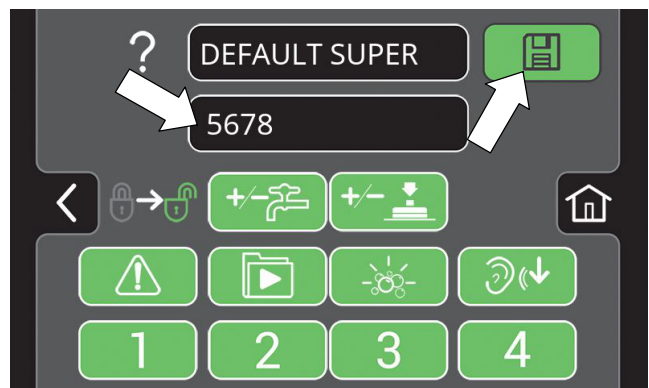

FIG. 201
5. Press the factory-assigned login code and enter a new login code (Figure 201). Press the flashing save button to save the new login code.